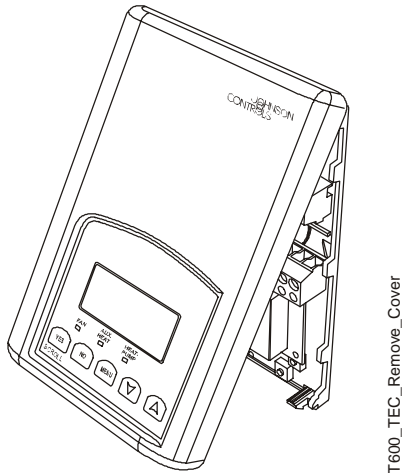

Figure 1: Removing the Thermostat Cover
1. Remove the security screw on the bottom of the thermostat cover using a Phillips-head screwdriver. Open the thermostat by pulling on the bottom side of the thermostat cover (Figure 1).